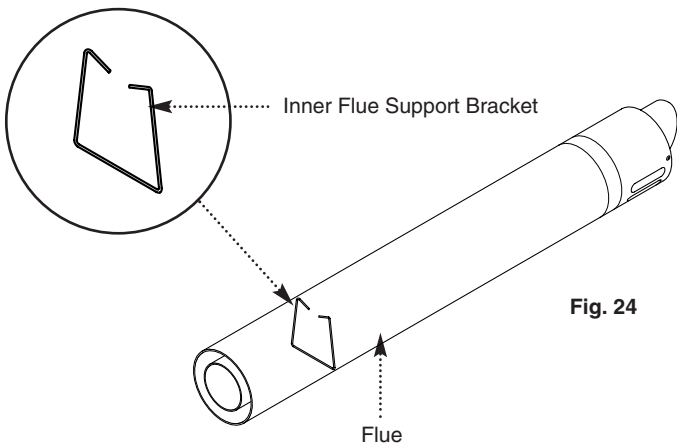

Fig. 24
8. Ensure the inner flue support bracket is positioned in the flue (Fig. 24).